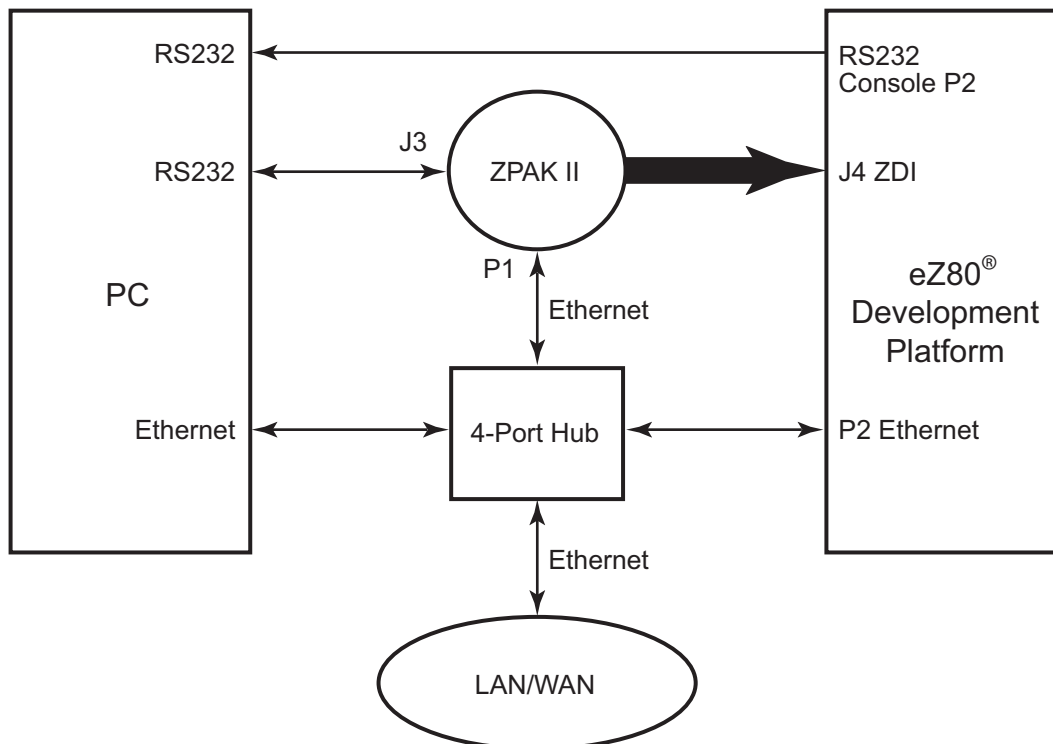

Figure 5. Test Setup for the Keypad Routine Using the eZ80F91 MCU
Figure 5 displays the basic setup for testing the keypad routine on the eZ80F91 MCU. The application emphasizes how to interface the 4x4 keypad using MCU port pins. This setup illustrates the connection between the PC, a LAN/WAN, and the eZ80[®] Development Platform on which the eZ80F91 Module is affixed.
2. Connect the eZ80[®] Development Platform and the ZPAK II unit to the PC and to the Ethernet via a 4-port hub as displayed in Figure 5.